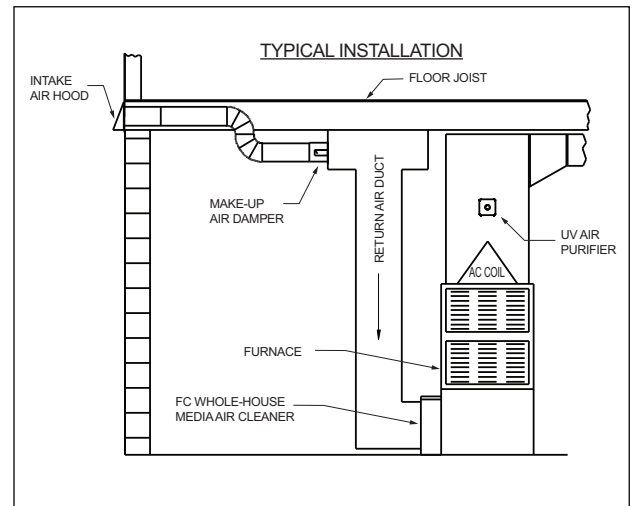

Figure 1
3. Connect 6" sheet metal duct piping (recommended) or 6" flex duct from the intake hood to the make-up air damper (see Figure 1). The use of flex duct will reduce the maximum available air flow of the system; if used, stretch the flex duct fully and avoid sharp bends, such as hanging from narrow supports. Fasten and support air duct so the ductwork does not put a strain on the make-up air damper.